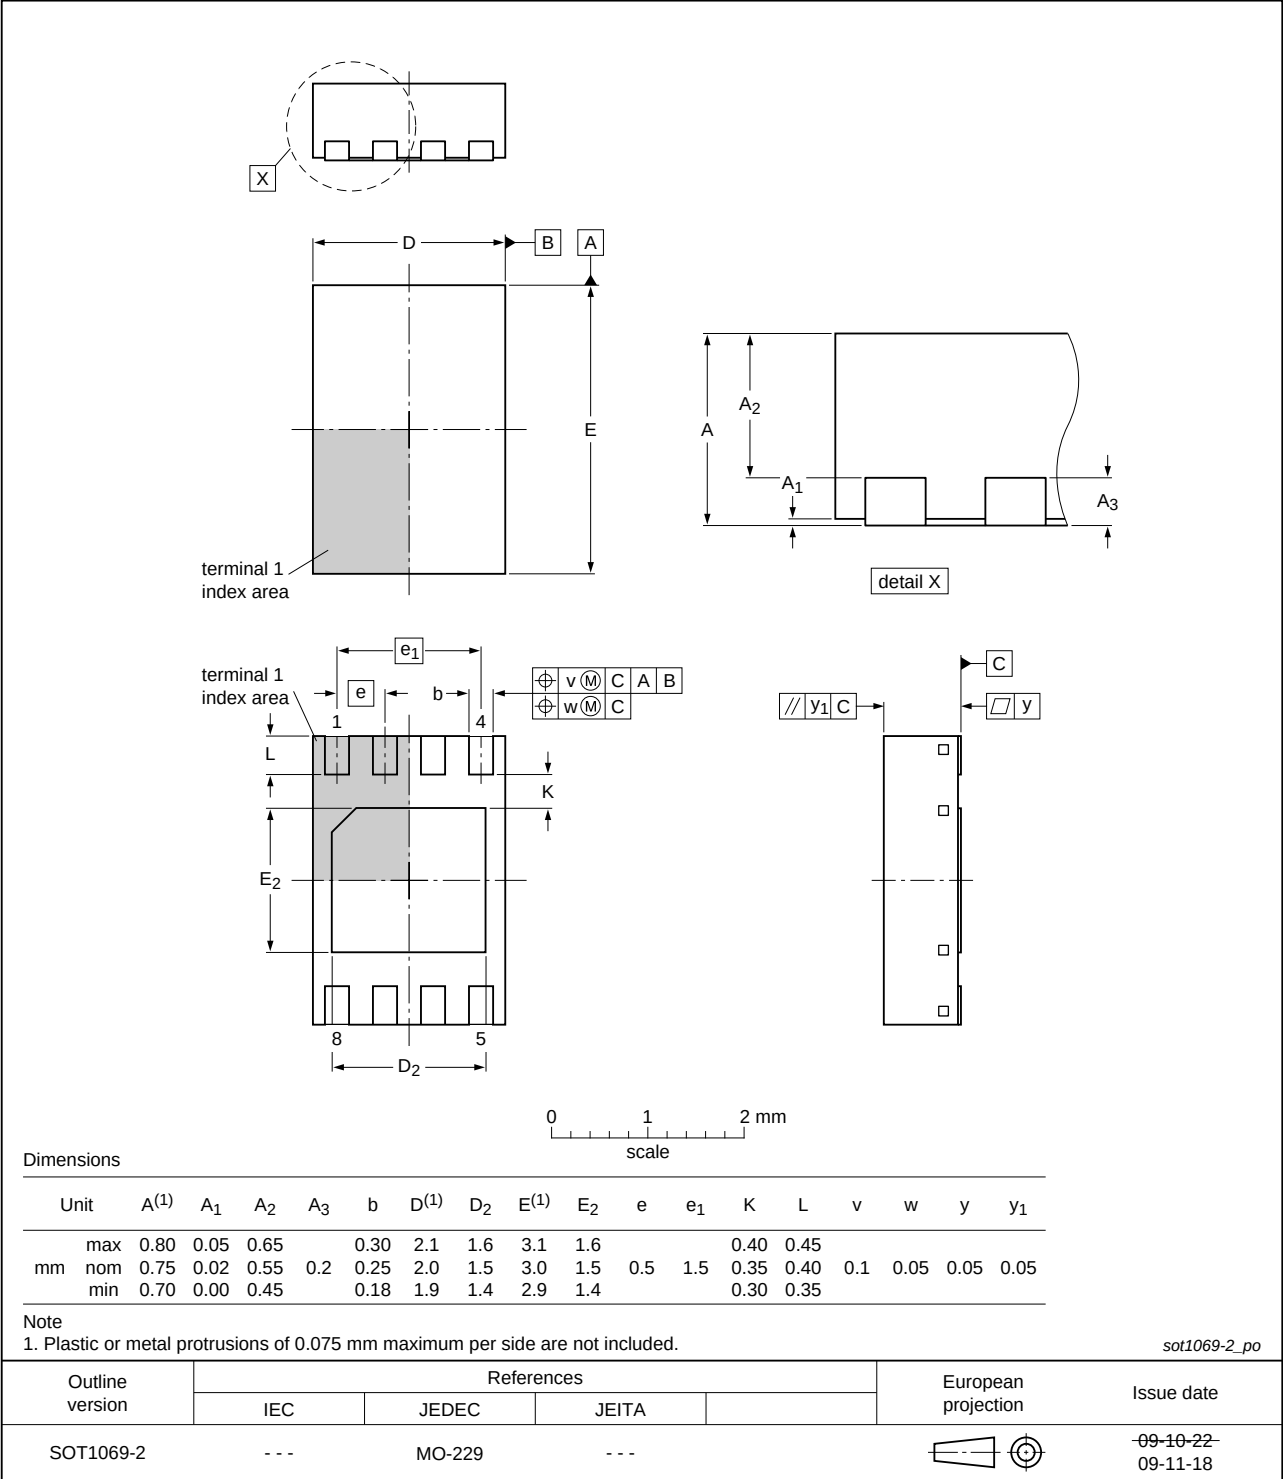

Fig 12. Package outline SOT1069-2 (HWSON8)
• Section 2 "Features and benefits": – 12th bullet item: deleted phrase "200 V MM per JESD22-A115" – 14th bullet item: added "HWSO8" package • Table 1 "Ordering information": added Type number PCA9515ATP (HWSO8 package) • Section 5.1 "Pinning": added (new) Figure 4 "Pin configuration for HWSO8" • Table 2 "Pin description": added column for HWSO8 pinning • Table 3 "Limiting values": – Symbol/Parameter "V_{bus}, voltage on I²C-bus, SCL or SDA" changed to "V_{I²C-bus}, I²C-bus voltage" with "SCL or SDA" in Conditions column – Symbol/Parameter "I, DC current" changed to "I_{I/O}, input/output current" • Table 4 "Static characteristics (V_{CC} = 3.0 V to 3.6 V)", Table note [1]: added phrase "(Table 4 for V_{CC} = 3.0 V to 3.6 V; Table 5 for V_{CC} = 2.3 V to 2.7 V)" • Table 5 "Static characteristics (V_{CC} = 2.3 V to 2.7 V)", Table note [1]: added phrase "(Table 4 for V_{CC} = 3.0 V to 3.6 V; Table 5 for V_{CC} = 2.3 V to 2.7 V)" • Section 12 "Package outline": added (new) Figure 12 "Package outline SOT1069-2 (HWSO8)"